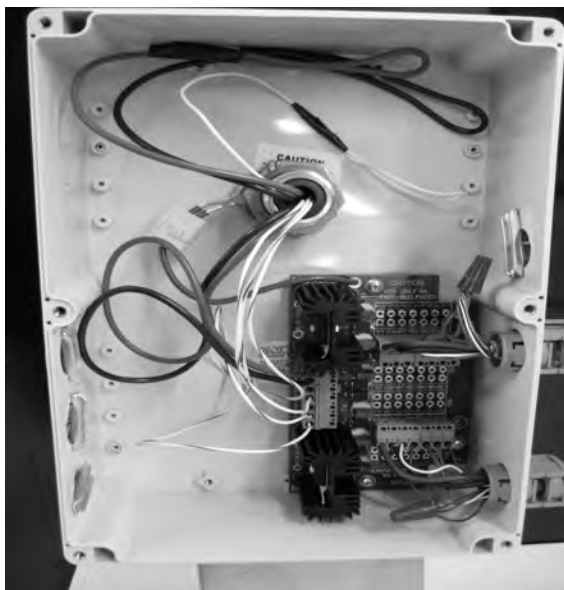

Figure 14: Fuse Box Wiring
2. Strip cable jacket as needed and run wires into the Fuse Box as seen in figure 14. Choose the nearest terminal block that is adjacent to an installed fuse.